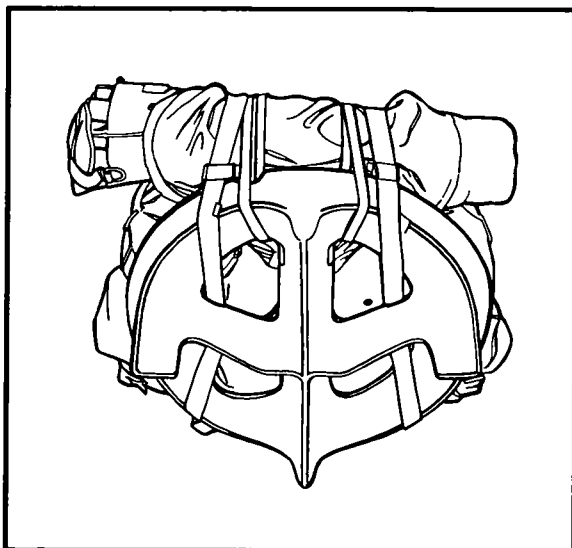
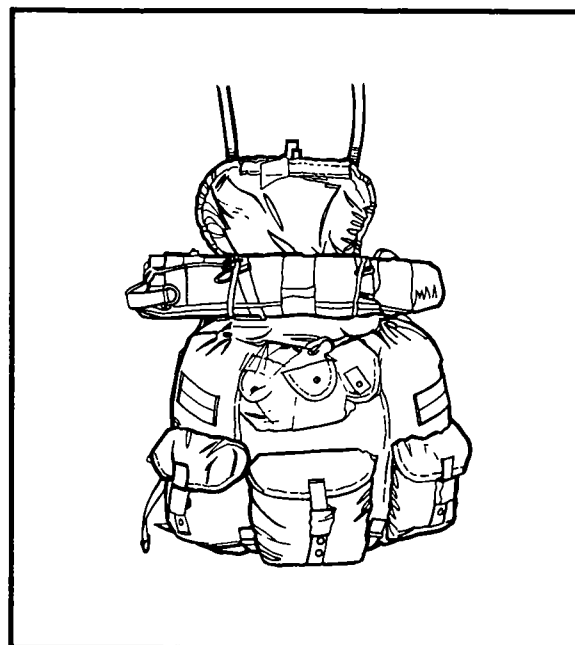

Figure 6-25. Aiming posts packed and secured.
Figure 6-26. Large baseplate secured to frame.
c. **Ammunition Bearer.** Place the aiming posts under the top flap of the pack and secure with 1/4-inch cotton webbing to the top of the frame (Figure 6-25). Place the large baseplate over the outer accessory pouches and secure to the top of the frame with 1/2-inch tubular nylon webbing (Figure 6-26). Route the free running ends of the pack adjusting straps through the baseplate (over, under, and over) and secure (Figure 6-27). Secure the H-harness to the pack and baseplate, ensuring that the free running ends are routed under the baseplate (top of the ALICE pack) (Figure 6-28) and over the baseplate (bottom of the ALICE pack).